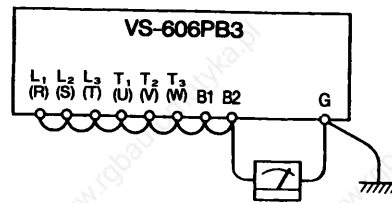

Fig.8 High Voltage Test
- (1) Remove the inverter main circuit and control circuit terminal wiring and execute the test only between the main circuit terminals and ground [ground terminal (G) (E)] as shown in Fig.8.
- (2) The equipment is normal with the insulation resistance tester indicating 1M $\Omega$  or more.